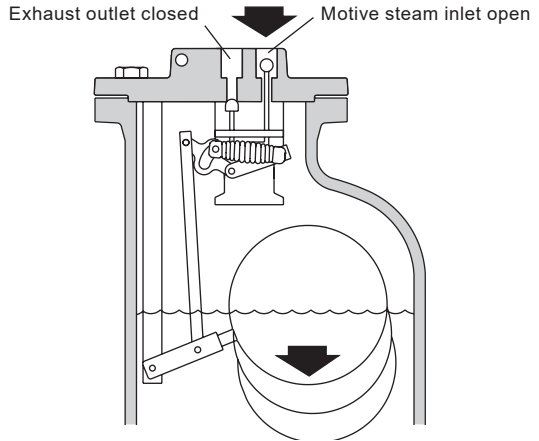
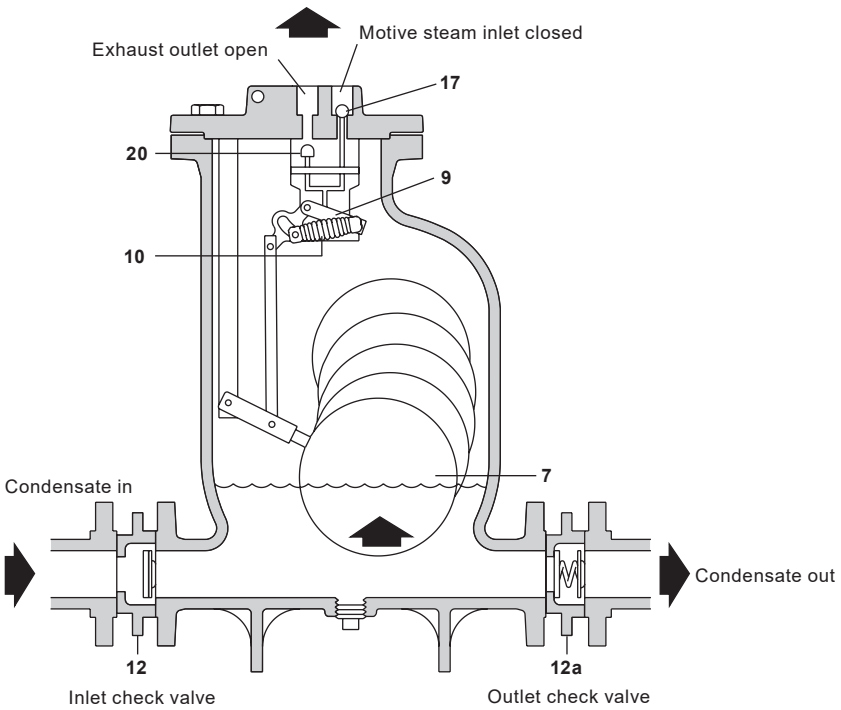

Fig. 10 Discharge stroke
Fig. 11 Filling stroke
1. Before start up the float (7) is at its lowest position with the steam valve (17) closed and exhaust valve (20) open (Fig. 11).
2. When liquid flows by gravity through inlet check valve (12) into the pump body, the float (7) will rise.
3. As the float (7) continues to rise the mechanism link (9) is engaged which increases the tension in the springs (10). When the float (7) has risen to its upper tripping position, the linkage mechanism snaps upward over centre. The energy in the springs is released as mechanism link (9) accelerates upward, simultaneously opening the motive steam inlet valve and closing the exhaust valve (Fig. 10).
4. Steam flow through the inlet valve (17) increases the pressure within the body. This closes the inlet check valve (12) and forces out the liquid through the discharge check valve (12a).
5. As the liquid level in the pump body falls the float lowers and the mechanism link (9) is engaged, which again increases the tension in the springs (10). When the float reaches the lower tripping position, the linkage mechanism snaps downward over centre. The energy in the spring is released thus accelerating the mechanism downward simultaneously opening the exhaust valve and closing the steam inlet valve.